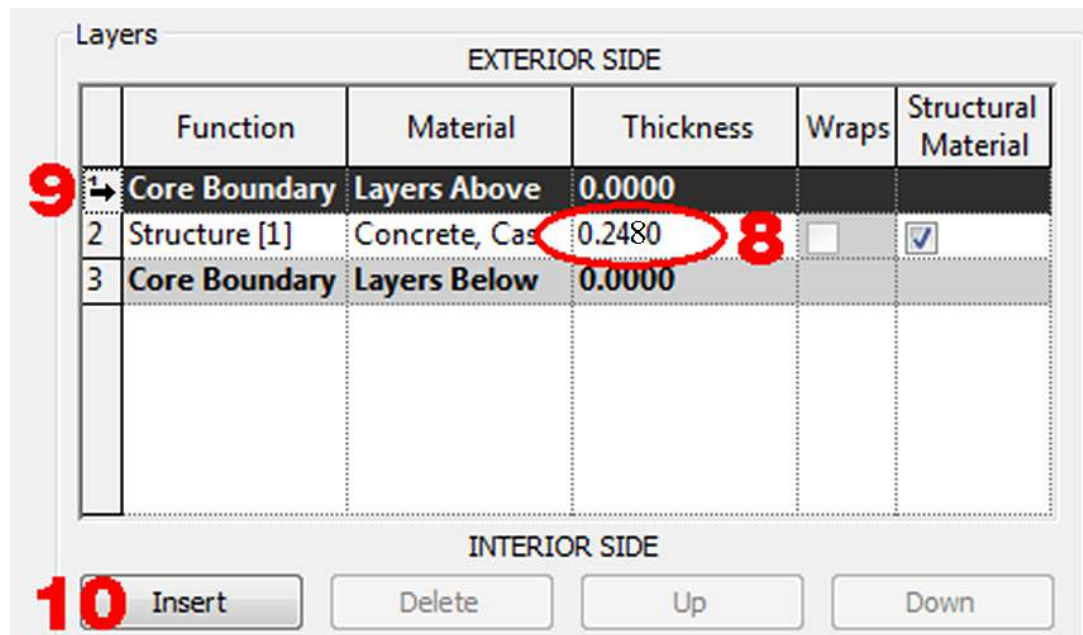

Fig. 2.11 – Edit Shear Wall structure
8. Under Layers, change thickness of layer 2 to 0.248 (Fig. 2.11).